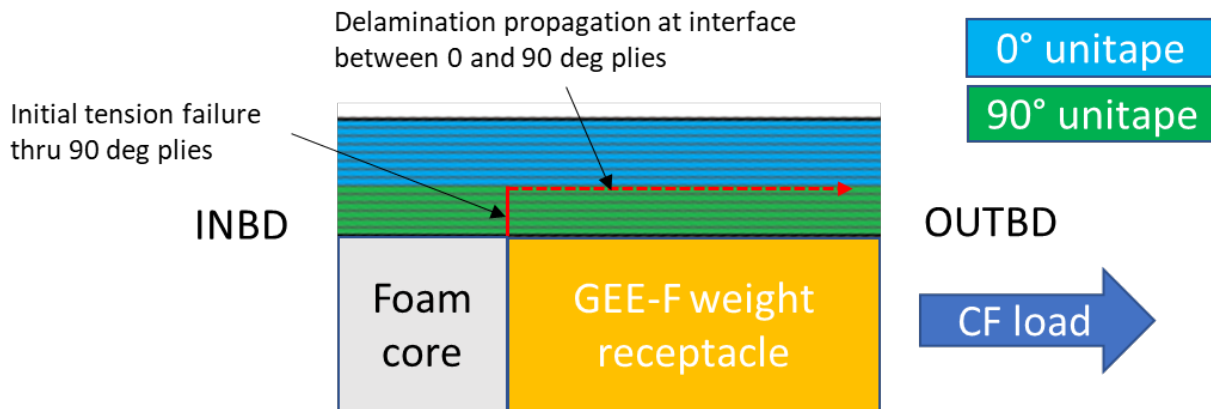

Figure 1 - Cross-Sectional Schematic of Failure and Damage progression (looking from TE toward LE)
The weight of the receptacle, lump mass, and balance weights in conjunction with the high rotational speed near the tip results in a large centrifugal force (CF) acting on the weight receptacle. This centrifugal force acts radially outward from the center of the hub and is reacted by the spar laminate via the film adhesive bond. This load is therefore acting perpendicular to the fiber direction of the 90° plies. The material is much weaker in this direction which causes the fibers to be pulled apart, resulting in a crack along the inboard edge of the weight receptacle. This crack extends through the thickness of the 90° plies (ref. Figure 1) until it reaches the interface to the 0° plies. Because of their orientation, the fibers in the 0° plies are aligned with the centrifugal load, making them much stronger and so they do not fail. Instead, the crack turns 90° and propagates outboard as a delamination between the 0° and 90° plies.